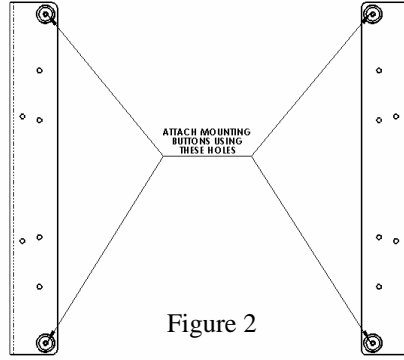

Figure 2
1. Using a 10-24 Button Head Cap Screw secure mounting button, with chamfered hole of mounting button (larger surface) facing bracket, to bracket (4 places) (see Figure 2 and 3).